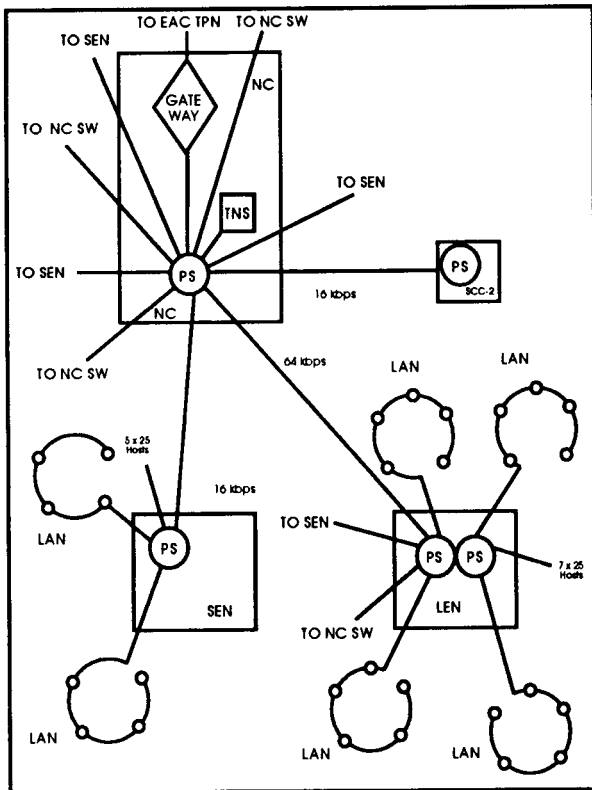

Figure 3-22. The TPN system.
**Implementation.** The TPN is implemented with AN/TYC-20 packet switches in the NC, LEN, SEN, and SCC-2 switch assemblages. (See Figure 3-22.) In the SCC-2's packet network management center (PNMC), the system planner manages the network. AN/TYC-19 gateways at NC switches provide connectivity between other data networks, such as the EAC TPN. Data is transferred at 64 kbps for NC to NC and NC to LEN connections and at 16 kbps for NC to SEN and LEN to SEN connections.